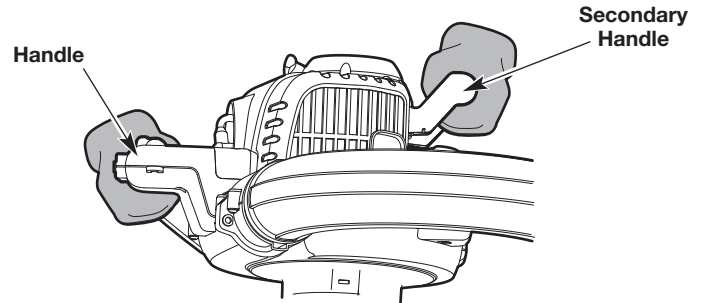

Fig. 16
- Hold the handle firmly with the right hand (Fig. 16). Hold the secondary handle firmly with the left hand (Fig. 16).